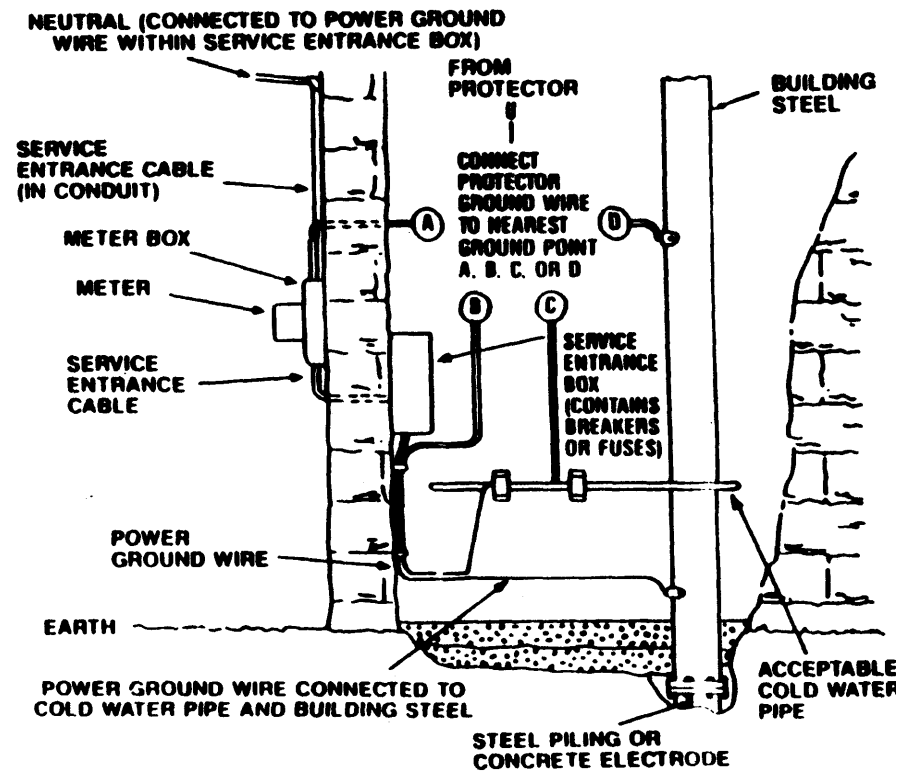

Figure 3
- The first choice for approved ground is some part of the power grounding system (Figure 3). The National Electrical Code requires that the telephone and power grounds be bonded with No. 6 AWG copper wire or equivalent and that an accessible means be provided at the electrical service for bonding other systems, such as telephone systems, to the power. The bonding point means may consist of an accessible metallic service entrance conduit, a power grounding conductor (see the note below), or a connector located on the exterior of the power service raceway or power service equipment (circuit breaker panel).